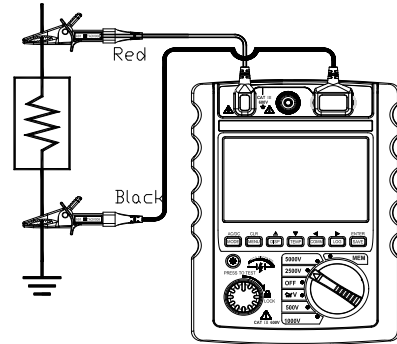

Figure 5
6.2 Insulation resistance measurement (As shown in Figure 5)